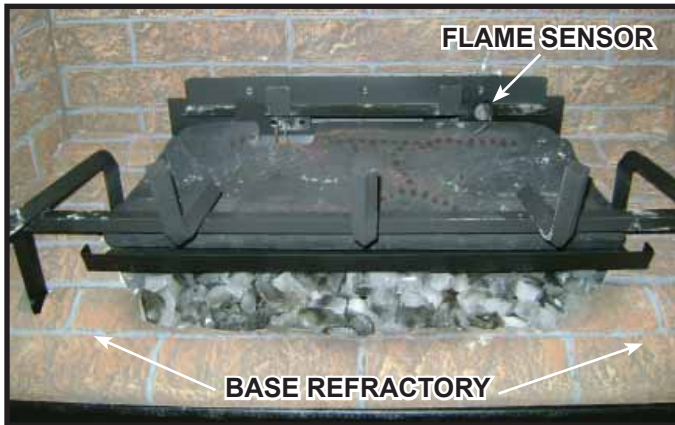

Figure 16.4 Placement of Embers
1. Pour Teco-Sil between the base refractory and burner as shown in Figure 16.4.
- Apply paint with the ember lights turned on. This will help you avoid over fogging or under fogging. Prior to painting, take precautions to prevent any overspray from reaching the flame sensor. See Figure 16.4.